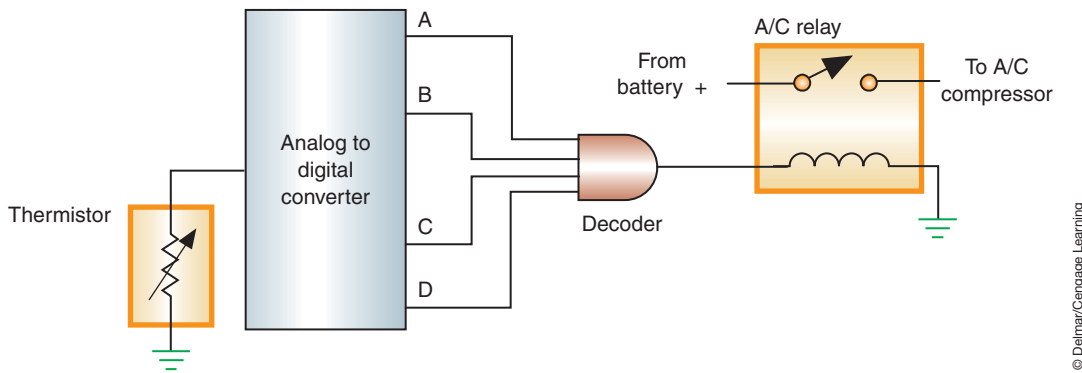

FIGURE 9-17 Simplified temperature sensing circuit that will turn on the air conditioning compressor when inside temperatures reach a predetermined value.
- 1. Decoder circuit:** A combination of AND gates used to provide a certain output based on a given combination of inputs (Figure 9-17). When the correct bit pattern is received by the decoder, it will produce the high-voltage signal to activate the relay coil.